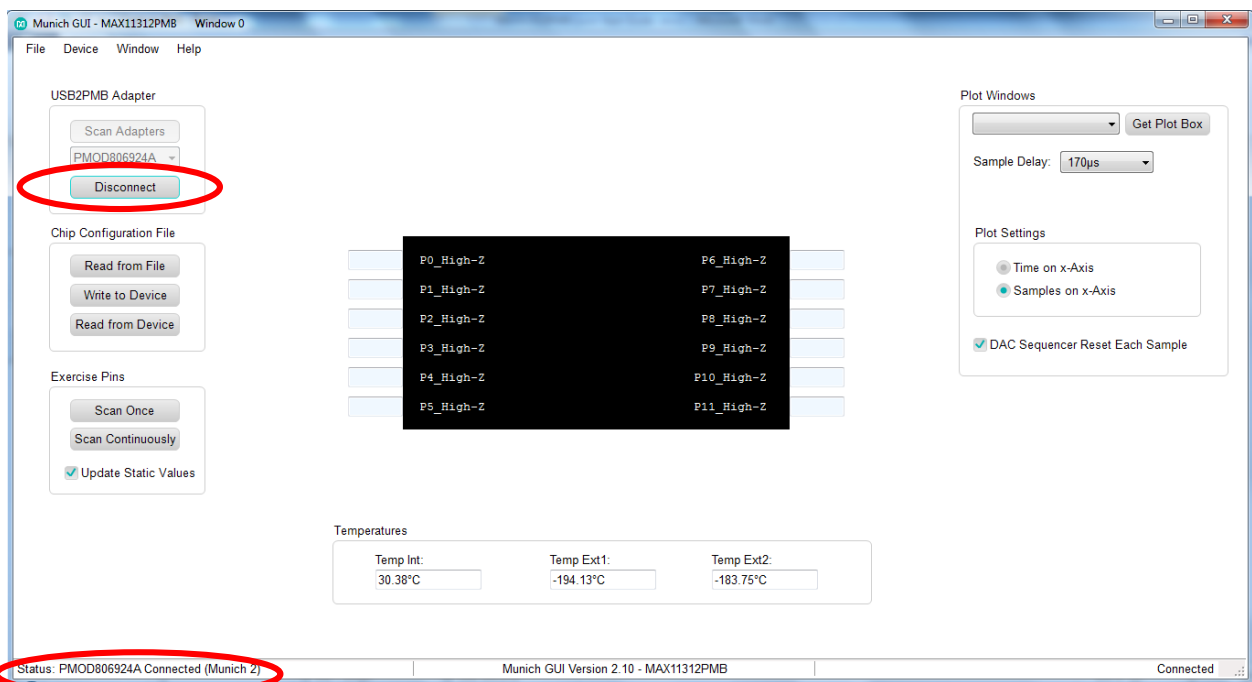

Figure 10. MAX11312 connected to Munich GUI.
- 8) Within the tab sheet, press the **Connect** button and verify that the button changes its text to **Disconnect**, and the status bar at the bottom indicates that the companion board is connected. See Figure 10.